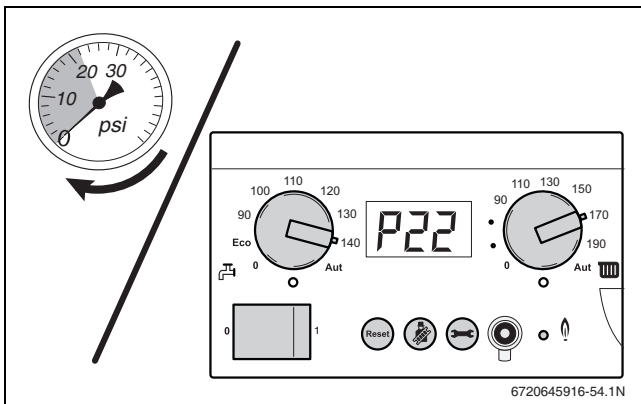

Fig. 57 Reading the pressure gauge
- ▶ Read the pressure (PSI) from the pressure gauge on the pump group or on the control panel of the BC10 (→ fig. 57).